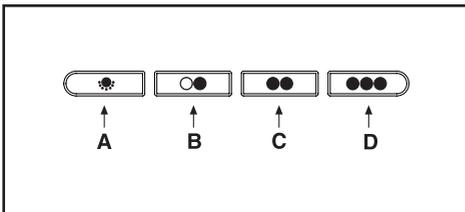

Fig.11
• **Mechanical controls (Fig.11)** the symbols are as follows: